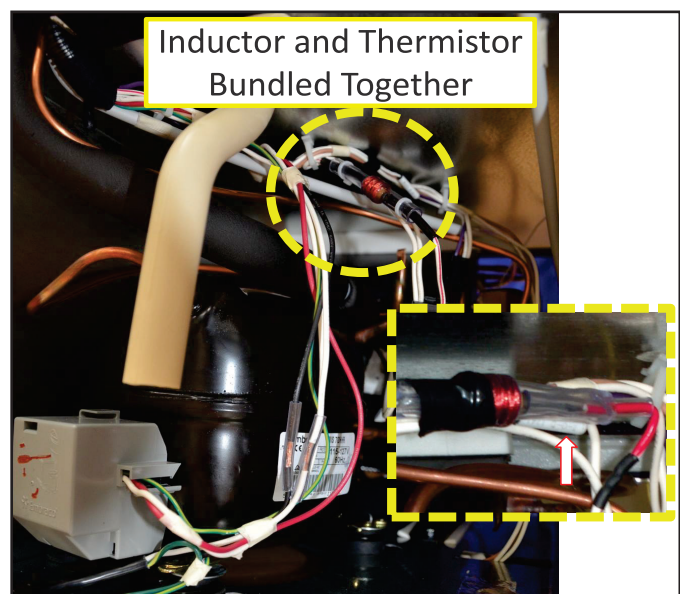

FIGURE 29
**NOTE:** 2 new components on this Ice Maker. An inductor (coil) is wired in series (red wire) with the condenser fan motor. It's purpose in life is to smooth out voltage spikes. The unit Thermistor (2 white wires) signals the control board if the temperature of the machine compartment exceeds 115 F. If it does, then during the next harvest cycle the condenser fan remains on to cool the area. 5 VDC is supplied to the Thermistor. See *Figure 29*.